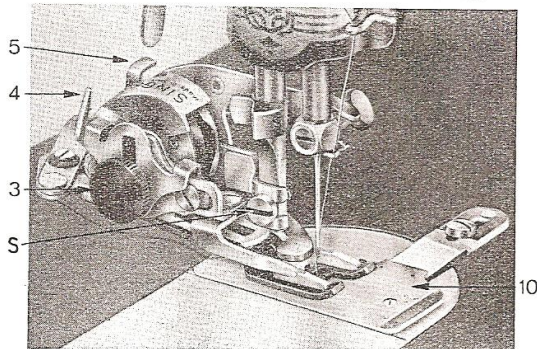

Fig. 3
- 1) Loosen presser foot screw S (Figure 3) and remove presser foot from the machine.
- 3) Fasten the attachment to the machine with the right hand so that the mounting bracket is seated on the presser bar in place of the presser foot and the actuating arm straddles the needle screw. Retighten the presser foot screw S (Figure 3) and the attachment will be properly placed and ready for sewing.
Release knob 3 (Figure 3) and move it upward for a longer stitch or downward for a shorter stitch and retighten. At its lowest position the feed is eliminated.